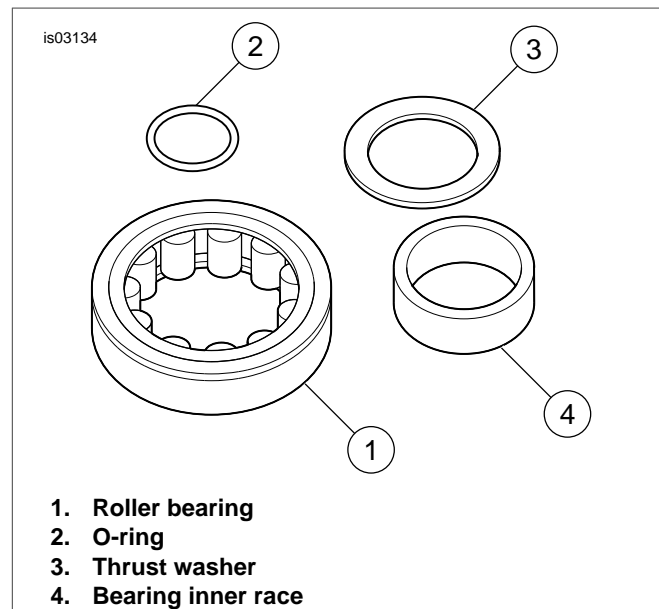
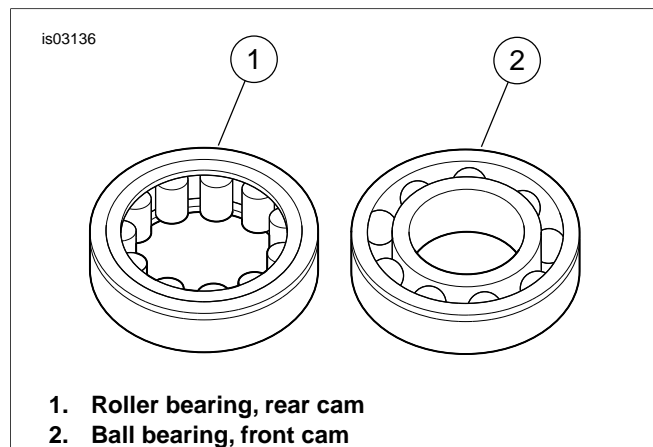

Figure 1. Rear Cam Roller Bearing Kit
Figure 3. Cam Bearings
See Figure 1, Table 1 to Figure 3, Table 3.
1. See Figure 1. Install rear cam roller bearing kit (Figure 10, item 8) onto rear camshaft.
Be aware that the front and rear cam bearings are not interchangeable. The rear cam utilizes a roller bearing while the front cam utilizes a ball bearing (See Figure 3).